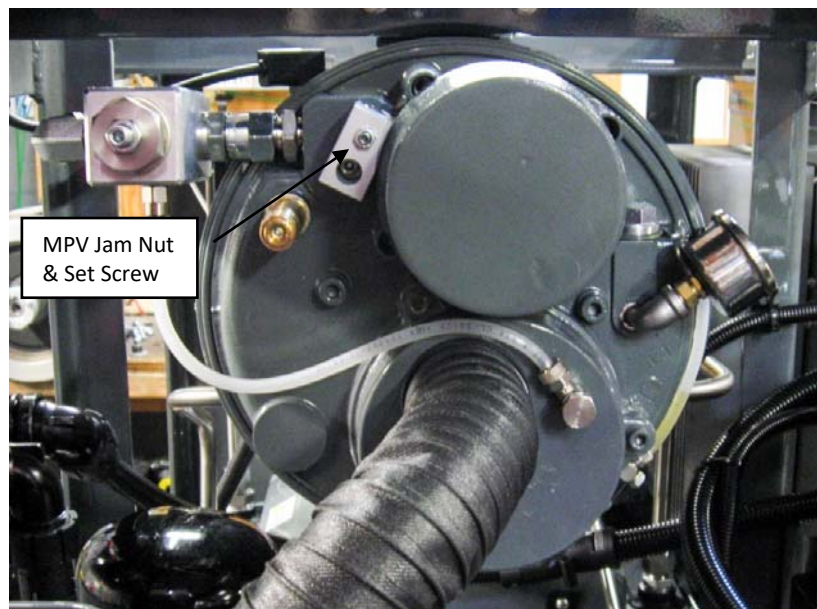

Figure 1
4. Using an 8mm wrench, loosen the Minimum Pressure Valve (MPV) jam nut. See Figure 1.